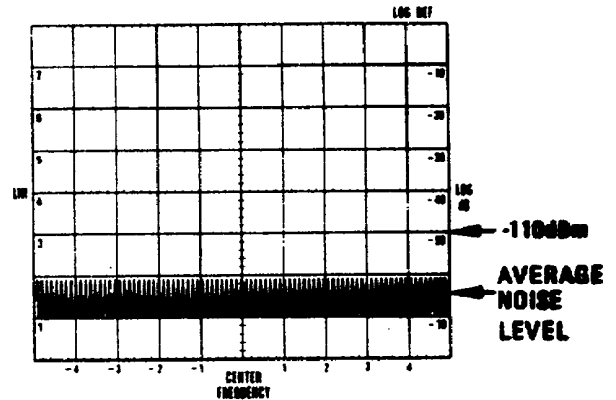

Figure 4-13. Residual Response Test
3. Observe the display as the analyzer scans from 60 to 110 MHz. The average noise level should be less than -110 dBm and no residual responses should occur. Figure 4-13 represents a scan with no residual response, and with the average noise level indicated.
4. Set FREQUENCY to 35 MHz and observe the display as the analyzer scans from 10 to 60 MHz. The average noise level should be less than -110 dBm and no residual responses Figure 4-13. Residual Response Tat should occur.